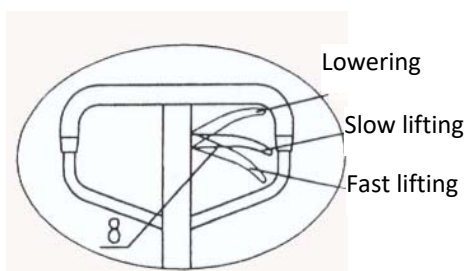

Fig. 4
4. Position the control lever (pos. 8 fig. 4) down in raise position and adjust the lock nut (pos. 10 fig. 3) at the end of the chain (pos. 2 fig. 3) at a gap of 1-2 mm from the pedestal. This procedure is usually unnecessary for a new truck.
5. Try shaking handle and operate the control lever (pos. 8 fig. 4) at different gears to be sure whether the truck works well at raising, neutral a gear and lowering positions.
The three-position control lever (pos. 8 fig. 4) is operated as follows: